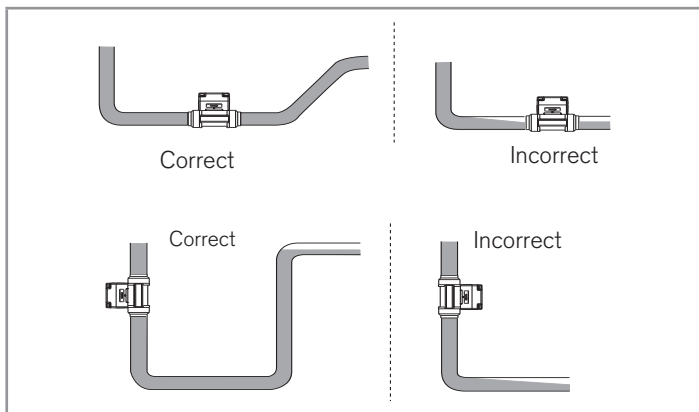

Fig. 7 : Filling the pipe
- Ensure that the pipe is always filled in the section around the device (Fig. 7).